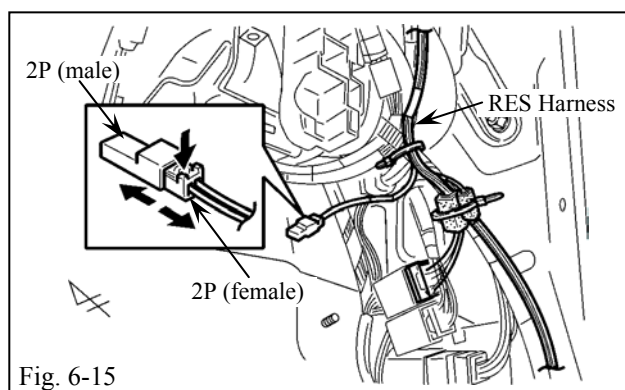

Fig. 6-15
- (v) Locate the RES Harness's white 2P Connector (plugged in empty Male connector) in the Passenger Side Cowl Area. (Fig. 6-15)
- (w) Disconnect the white Male 2P Connector. (Fig. 6-15)